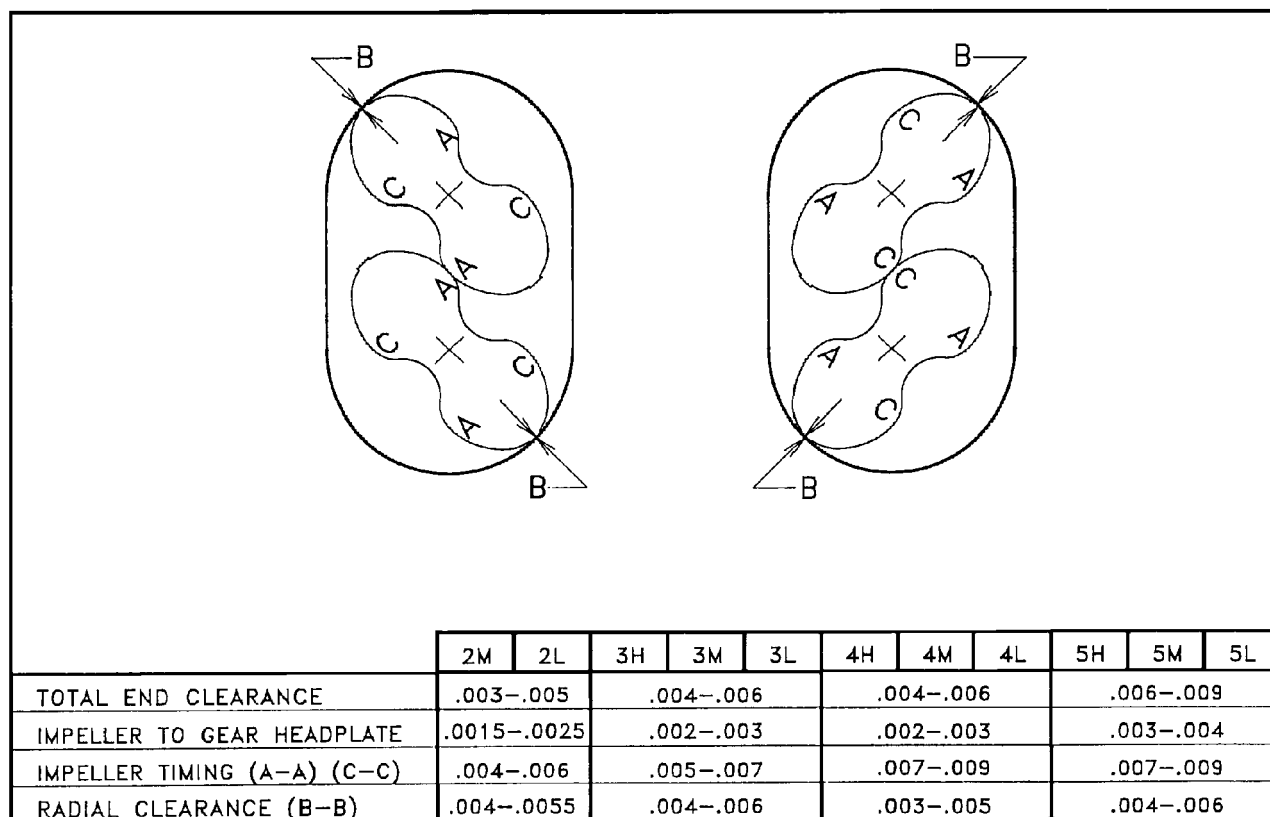

FIGURE 21
If total clearance is not within the limits specified in FIGURE 21, page 20, it may be necessary to shim the case to obtain the proper total end clearance. The shim should be placed between the drive headplate and impeller case.
11. Push the impellers against the gear headplate and recheck the total end clearance between the drive headplate and the impellers (see FIGURE 21).
- A. If total end clearance is insufficient, loosen impeller case to headplate bolts on either headplate, and move the headplate away from the case far enough to insert a paper shim in the amount equal to the insufficient clearance. Retighten case bolts and again check the total end clearance. Refer to FIGURE 21 for correct clearance.
12. Impeller tip to case clearance should be checked at this time by inserting the correct thickness feeler gauge between the tip and the case and rotating the impeller (see FIGURE 21, page 20). Repeat the procedure on both impellers.
- F. Place impellers in the position shown in FIGURE 21, page 20. Check to be sure impellers are in correct position as previously match marked.
- H. Refer to diagram in FIGURE 21, page 20. Use feeler gauges to check clearances between impeller lobes at positions A-A and C-C. Add the clearances, and divide the total clearance evenly between A-A and C-C.
- D. To set the fixed end, insert the feeler gauge in the amount specified in FIGURE 21, page 20, between the headplate and the impeller at the gear end.